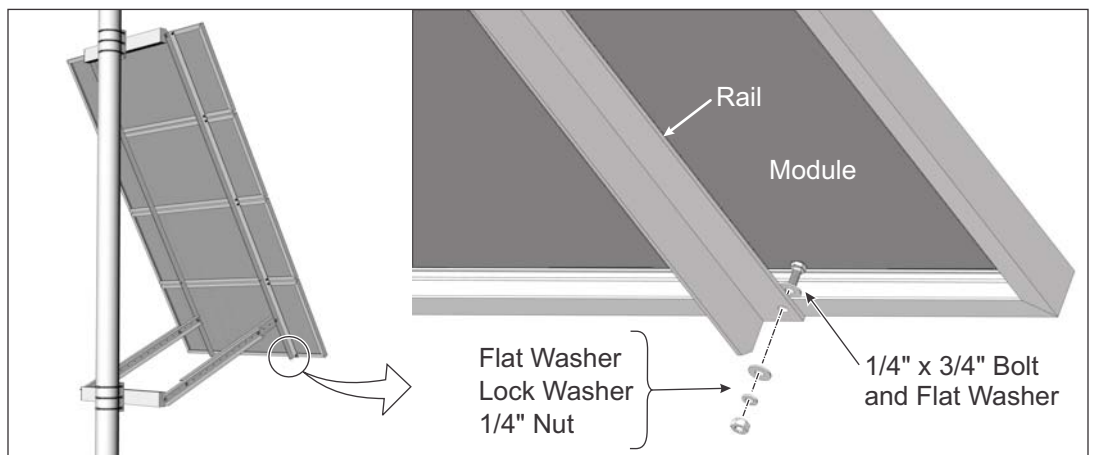

Figure 7-1: Attaching Module to Rail
- Place the Module on the Module Rails. While one person holds the Module in place, align the mounting holes and secure with four 1/4" x 3/4" bolts and hardware. Torque to 6-8 ft.-lbs. (See Figure 7-1)